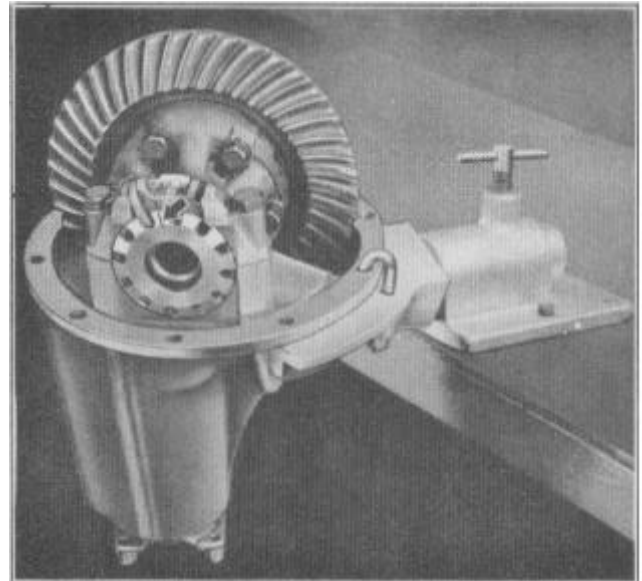

FIGURE 13
2. Remove nuts and lockwashers attaching differential carrier to axle housing, lift out differential gear carrier assembly and place in holding fixture J-945 as shown in Figure 13.
NOTE: In order to save time, it is suggested that the bearing adjusting nuts be marked before removal (see arrow, Figure 13) so that they may be reassembled with approximately the same gear adjustment.